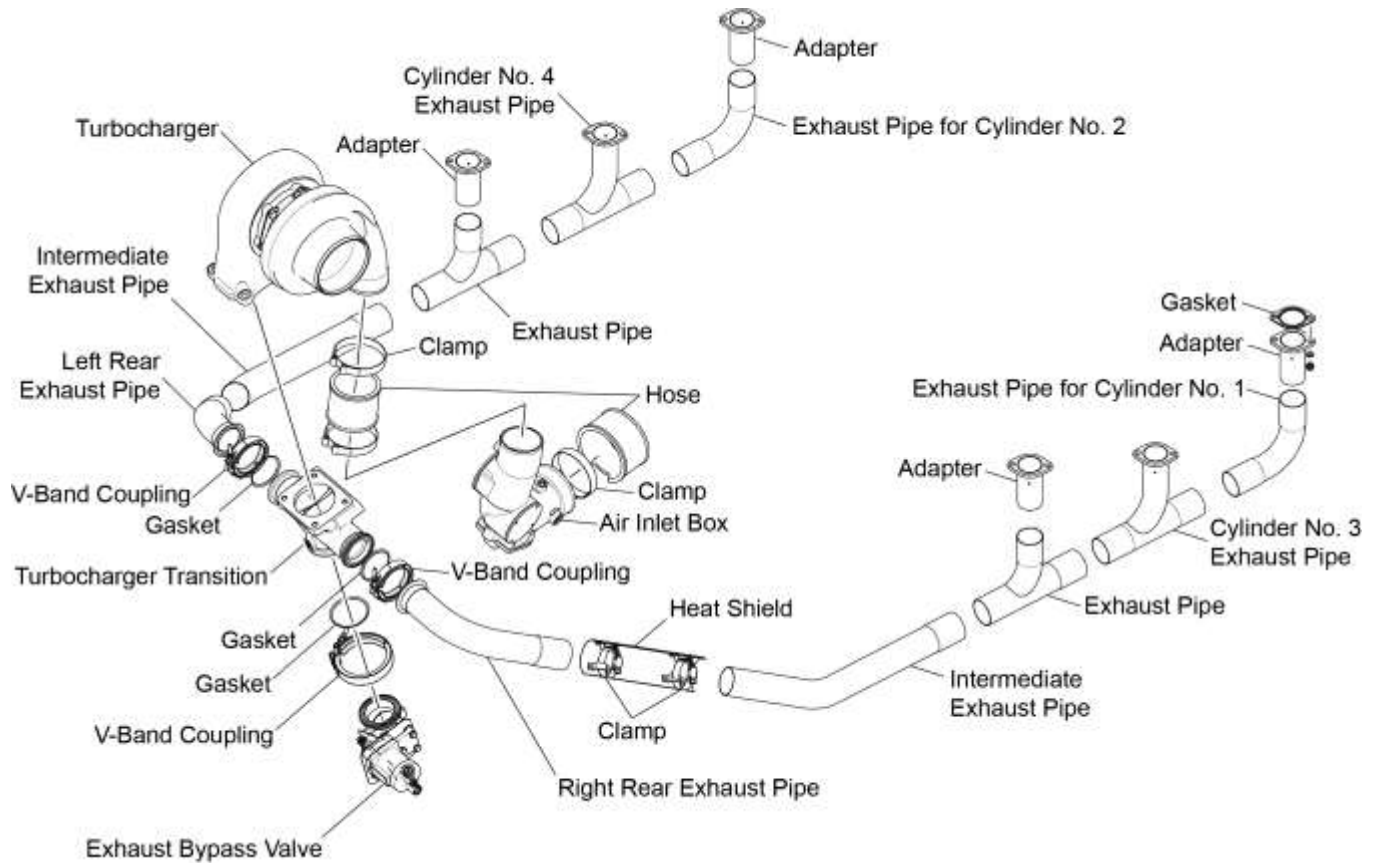

Figure 3
- B. Examine the exhaust system gaskets (Figure 3) for damage. Replace a damaged exhaust system gasket.
⚠ CAUTION ALL OF THE FLANGE SURFACES MUST BE ACCURATELY ALIGNED. IF EXHAUST COMPONENTS ARE INCORRECTLY ALIGNED, THEY CAN CAUSE TOO MUCH STRESS TO THE FLANGES OF THE EXHAUST PIPES (FIGURE 3). THIS MISALIGNMENT ALSO CAN CAUSE GAS LEAKAGE AT THE SLIP JOINTS OF THE INTERMEDIATE PIPE AND FLANGE JOINTS OF THE LEFT AND RIGHT PIPES.
- C. Examine the exhaust pipe and attachments (Figure 3) for cracks.
- I. Examine the exhaust pipe segments that are attached to the exhaust bypass transition assembly (Figure 3). Record all cracks on welds and attaching flanges. Replace cracked components.
- A. Using two hose clamps, install the heat shield (Figure 1) over the right rear exhaust pipe (Figure 3) and the right intermediate exhaust pipe.